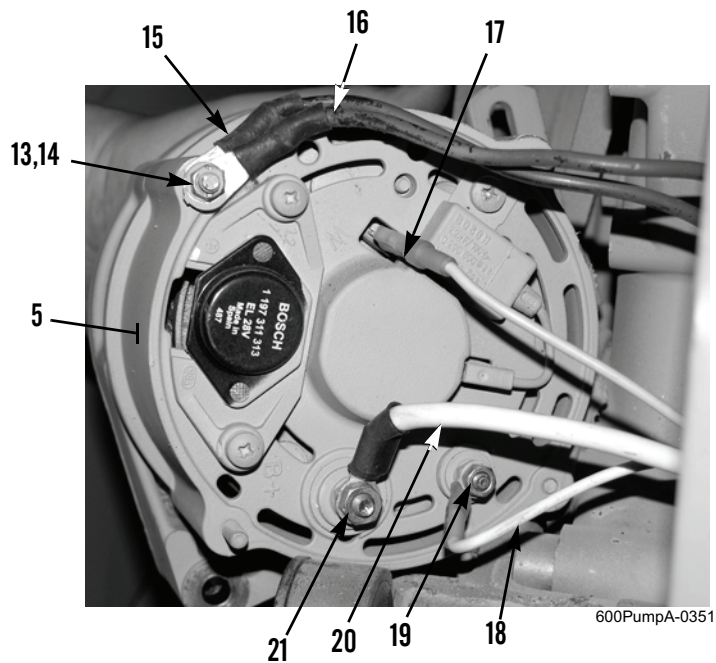

Figure 2. Alternator Wires.
5. Remove locknut (Figure 2, Item 19) and wire (Figure 2, Item 18) from alternator (Figure 2, Item 5). Discard locknut.
6. Remove locknut (Figure 2, Item 21) and wire (Figure 2, Item 20) from alternator (Figure 2, Item 5). Discard locknut.
7. Disconnect wire (Figure 2, Item 17) from alternator (Figure 2, Item 5).
8. Remove nut (Figure 2, Item 13), lockwasher (Figure 2, Item 14), and wires (Figure 2, Items 15 and 16) from alternator (Figure 2, Item 5). Discard lockwasher.